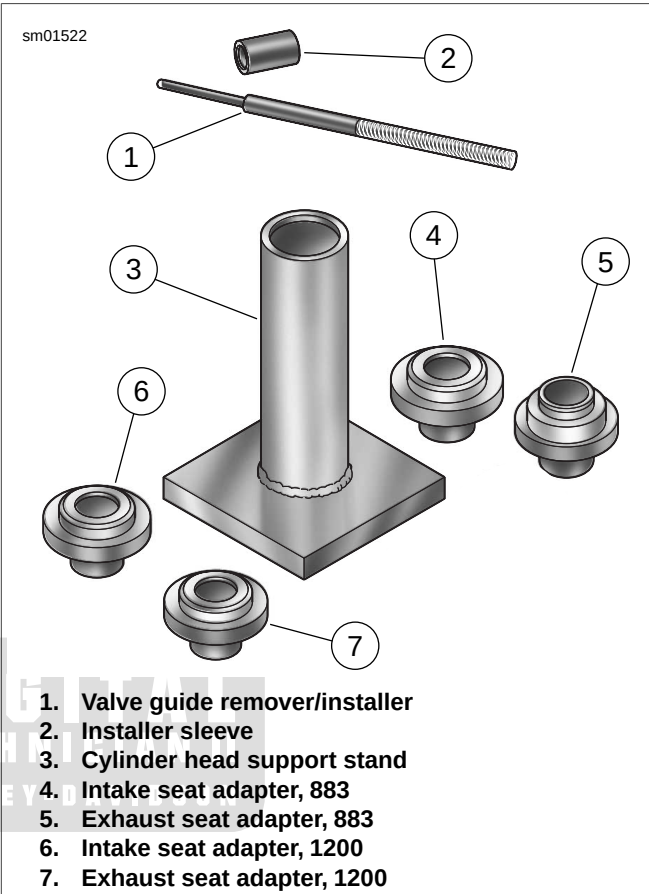
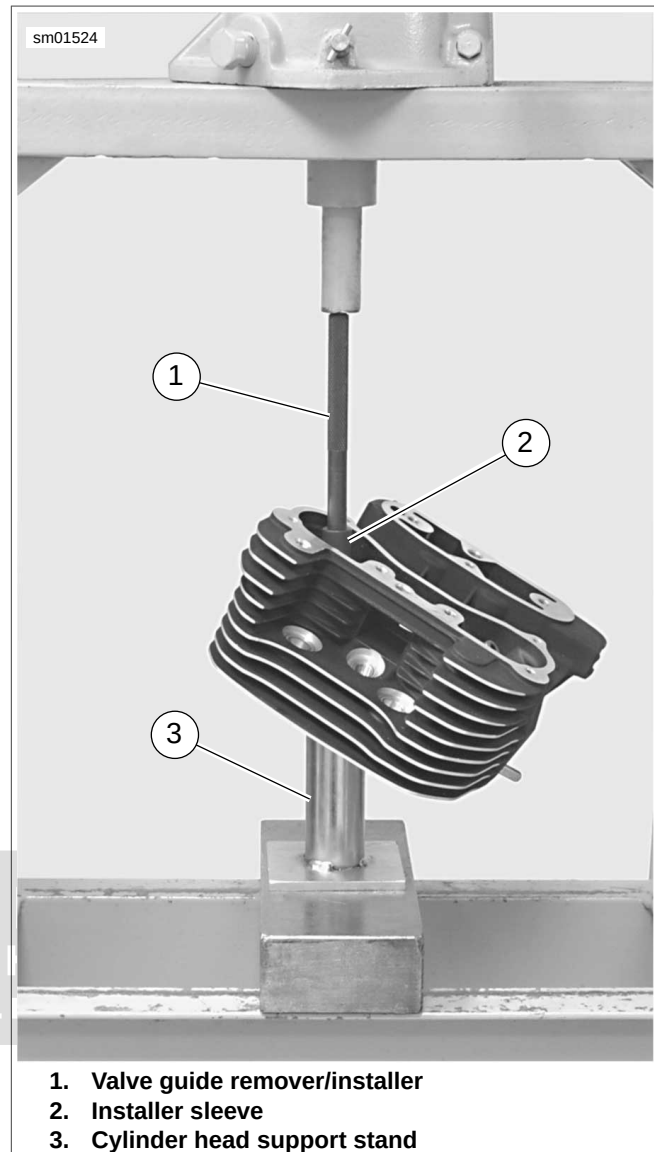

Figure 3-123. Valve Guide Replacement Tools
Figure 3-125. Installing Shoulderless Valve Guide
1. See Figure 3-123. Prepare cylinder head for valve guide replacement.
- b. Insert sleeve of intake (4 or 6) or exhaust (5 or 7) seat adapter into tube at top of CYLINDER HEAD SUPPORT STAND (Part No. HD-39782-A) (3).
Installer sleeve (item 2, Figure 3-123) is not used for removal of valve guide.
3. Center VALVE GUIDE REMOVER/INSTALLER under ram (3) of press. Apply pressure until valve guide drops free of cylinder head. Discard valve guide.
- a. See Figure 3-123. Insert sleeve of intake (4 or 6) or exhaust (5 or 7) seat adapter into tube at top of cylinder head support stand (3). Position cylinder head so that valve seat is centered on seat adapter.
- d. Place installer sleeve (2) over valve guide and then insert VALVE GUIDE REMOVER/INSTALLER (1) into installer sleeve.
- e. See Figure 3-125. Center VALVE GUIDE REMOVER/INSTALLER (1) under ram of press and apply pressure only until valve guide is started in bore and then back off ram slightly to allow valve guide to center itself.